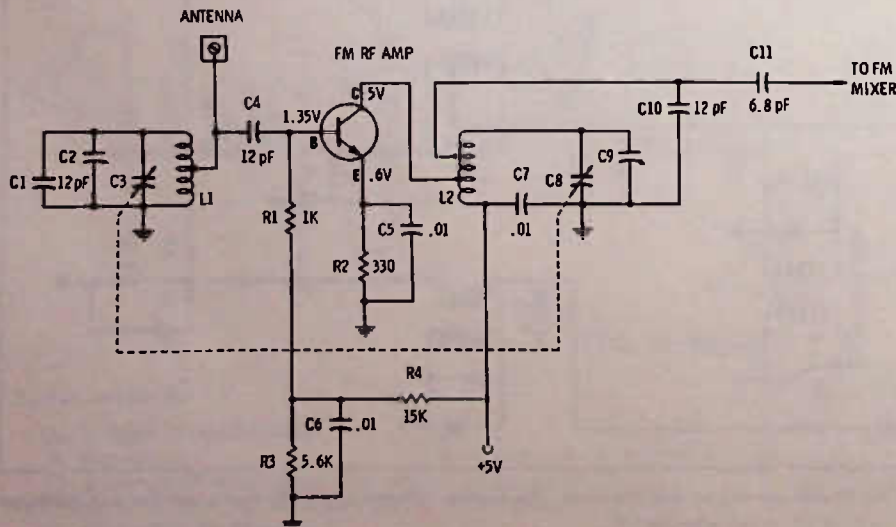

Fig. 13-19. Circuit for Questions 8 through 15.
8. Fig. 13-19 is an fm rf amplifier circuit as used in one make of portable receiver. How much collector current is flowing in this transistor, judging from the emitter voltage?
9. In Fig. 13-19, the transistor is
10. In Fig. 13-19, suppose that the base and emitter voltages read zero to ground. The trouble most likely would be
12. In Fig. 13-19, if the emitter voltage reads about 5 volts while the base voltage reads nearly normal, you should suspect
13. In Fig. 13-19, capacitors C1 and C10 are fixed capacitors across the tuned circuits which "pad" the circuit so the coils will tune, using C3 and C8, between 88 and 108 MHz. What is the purpose of C2 and C9?
14. In Fig. 13-19, C7 is needed to
15. In Fig. 13-19, if capacitor C5 opened,